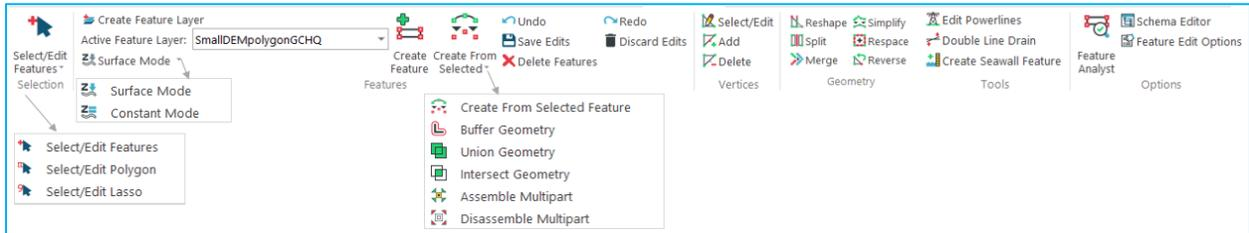

Figure 66 - LP360 Feature Edit Tab
5. Flight lines can be deleted if necessary, by selecting the layer with the *Select/Edit Features* button on the left end of the Feature Edit tab (Figure 66) and clicking the red “X” on the right end of the Feature Edit tab (Figure 66).
- a) Select the **Select/Edit Features** tool  on the LP360 Feature Edit tab (Figure 66).
- c) Select the **Delete Selected Features**  button on the LP360 Feature Edit tab (Figure 66) and the selected feature(s) will be deleted.
- e) Select the **Save Feature Edits**  icon on the LP360 Feature Edit tab (Figure 66) to save the edits.
- a) Select the **Select/ Edit Features** tool  on the LP360 Feature Edit tab (Figure 66).